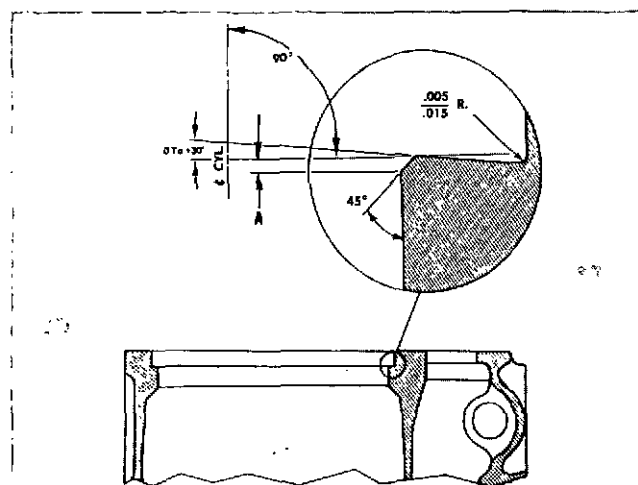

Fig. 1-13 (N10111). Cross-Section Of The Counterbore.
- The tool must cut the counterbore ledge to the dimensions shown in Fig. 1-13.